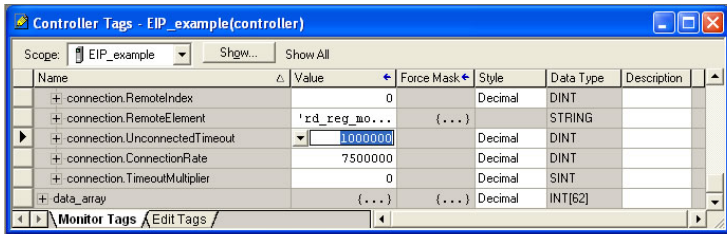

Figure 96: Reduce the UnconnectedTimeout Value
- e) Select the “Monitor Tags” tab. Expand the “connection” tag by clicking on the “+” sign next to the tag name. Scroll down to the connection.UnconnectedTimeout field and change its value from the default 30000000 (30s in 1uS increments) to 1000000 (1s). This value determines how long to wait before timing out and retransmitting a connection request if a connection failure occurs. Refer to Figure 96.